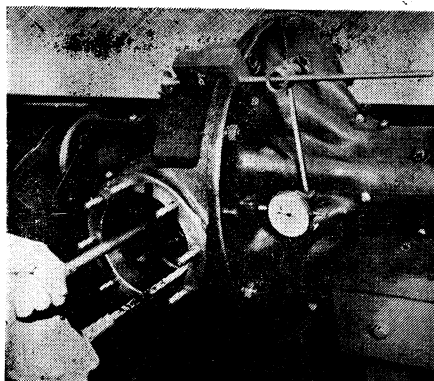

Fig. 113 Checking differential and gear end play with dial indicator through thrust block pin hole
7. Check differential and gear assembly end play with dial indicator through thrust block pin hole against gear, Fig. 113. Both differential bearing preload and gear lash are controlled by selective spacers, available in thickness steps of .003", which are installed between the differential bearing cups and the case and cover halves of the axle housing. Bearing preload may be increased or decreased by using a thicker or thinner spacer respectively in the cover half of the assembly. The gear may be moved toward the pinion, decreasing the gear lash, by decreasing the thickness of the spacer in the case half and increasing the thickness of the spacer by the same amount in the cover half. Reversing this transposition will move the gear away from the pinion and increase the gear lash. The correct preload of .008" to .013" tight is obtained as follows: